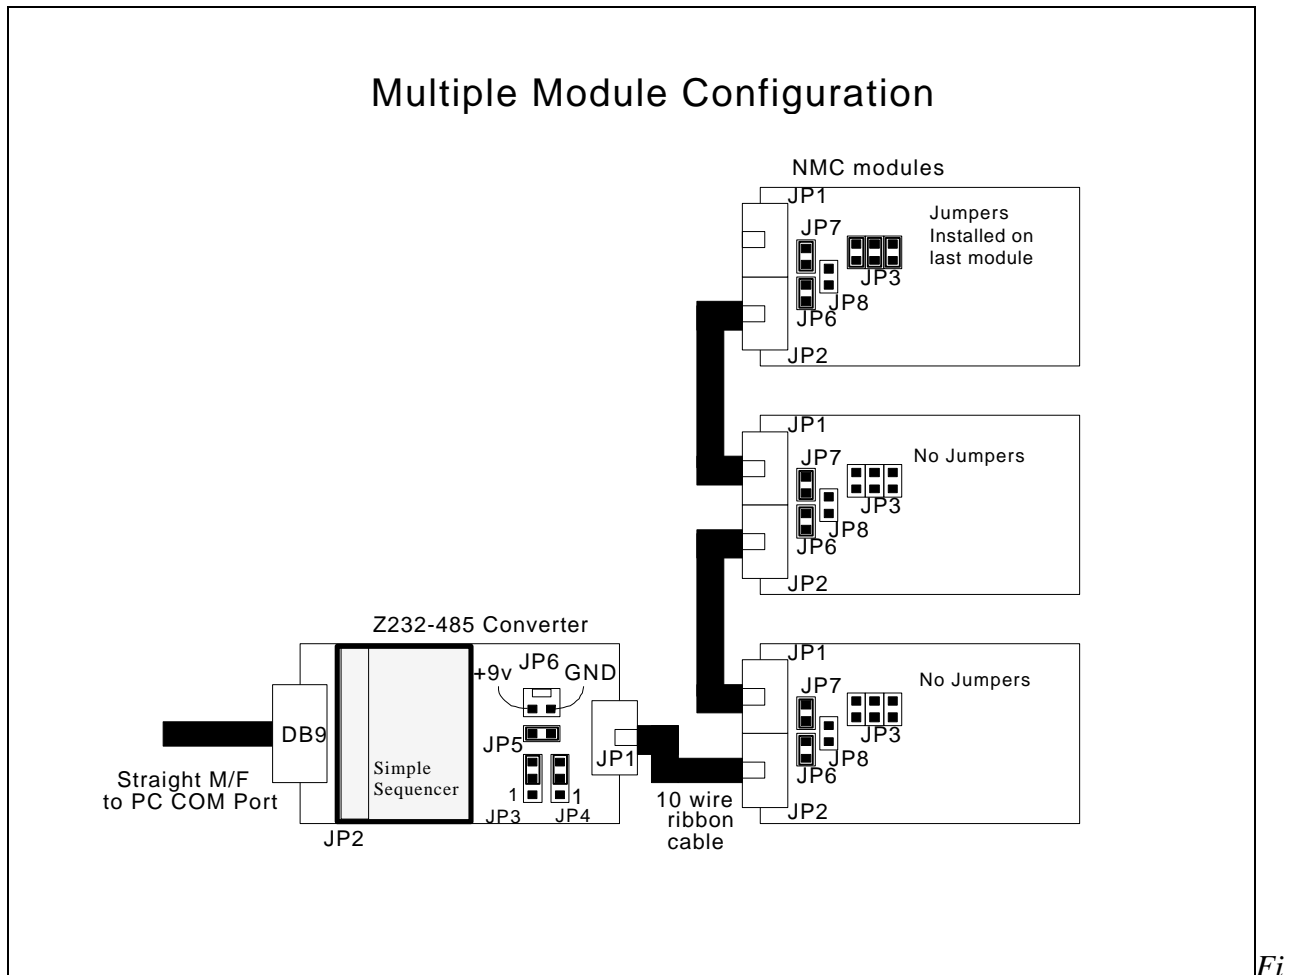

Figure 1 - Interconnection diagram.
3. Interconnect your **PIC-SERVO**, **PIC-STEP** or **PIC-I/O** boards with the **Z232-485** board with the 10 wire ribbon cables and set jumpers as shown. (See *Figure 1* below.)
If you have your PC's COM port connected to the **Simple Sequencer** with **NMC** modules attached (see *Figure 1*), the **Simple Sequencer** interface program will automatically detect how many modules are connected as well as the types of modules, and a module list will be created. In the list, the